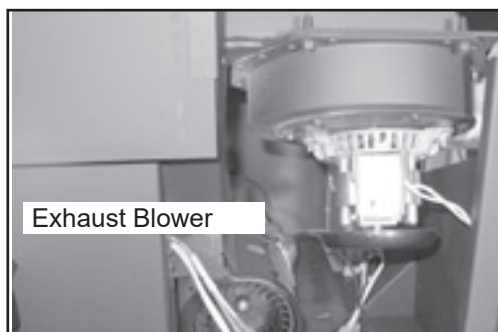

Figure 25.1
4. There is a removable plate on the exhaust blower. Depending on the model, use a 1/4 inch socket, or 1/4 inch Nut Driver or #2 Phillips Head screw driver to loosen the 6 screws in the keyhole shaped holes and rotate the plate. It is only necessary to loosen screws (**Figure 25.1**).